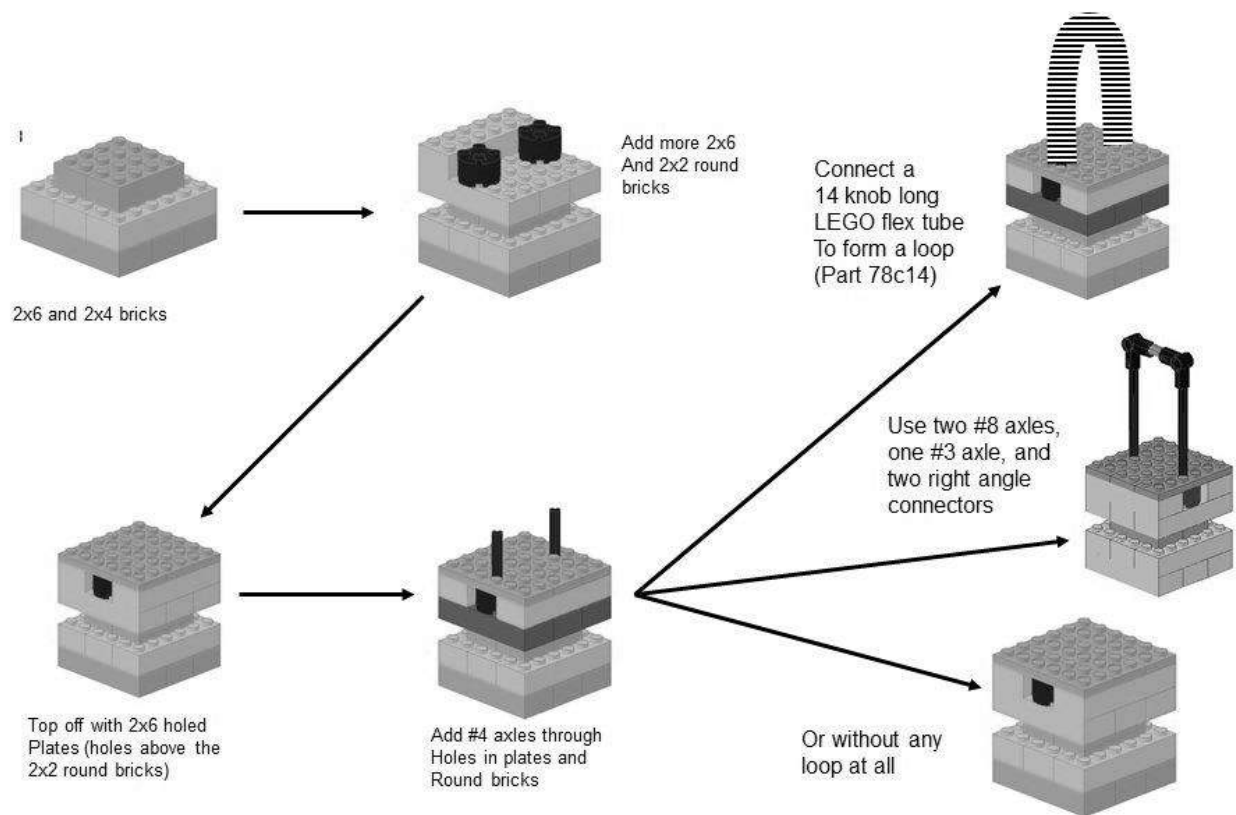

Figure 11 - Building the Delivery Object
- ii) See figure 11 for details and dimensions
- 5) Delivery Object (See Figure 11)